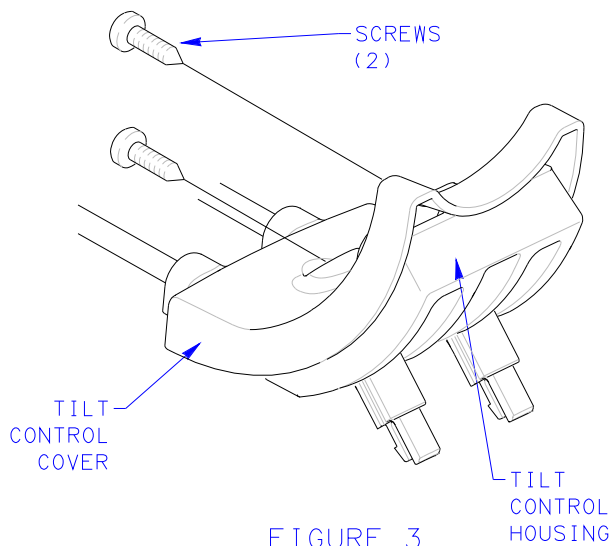

FIGURE 3
5. USING #2 PHILLIPS HEAD SCREWDRIVER, REMOVE AND SET ASIDE (2) SCREWS FASTENING TILT CONTROL COVER TO TILT CONTROL HOUSING. SET ASIDE TILT CONTROL COVER. SEE FIGURE 3.
9. INSTALL TILT CONTROL COVER TO TILT CONTROL HOUSING AND SECURE WITH (2) SCREWS. SEE FIGURE 3.